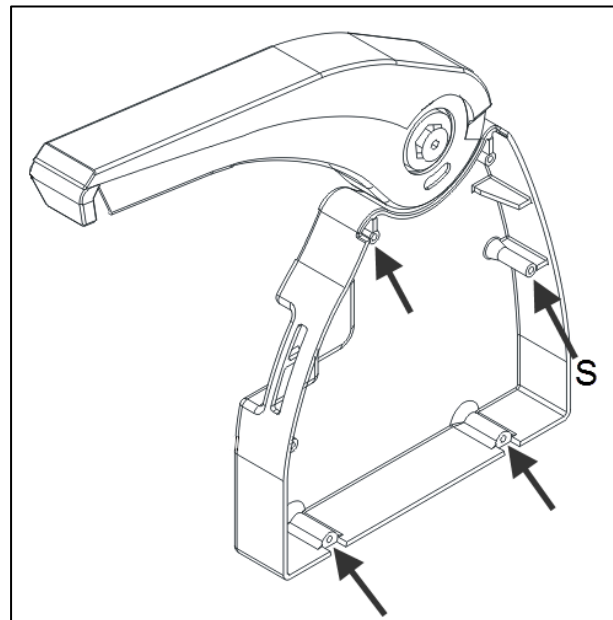
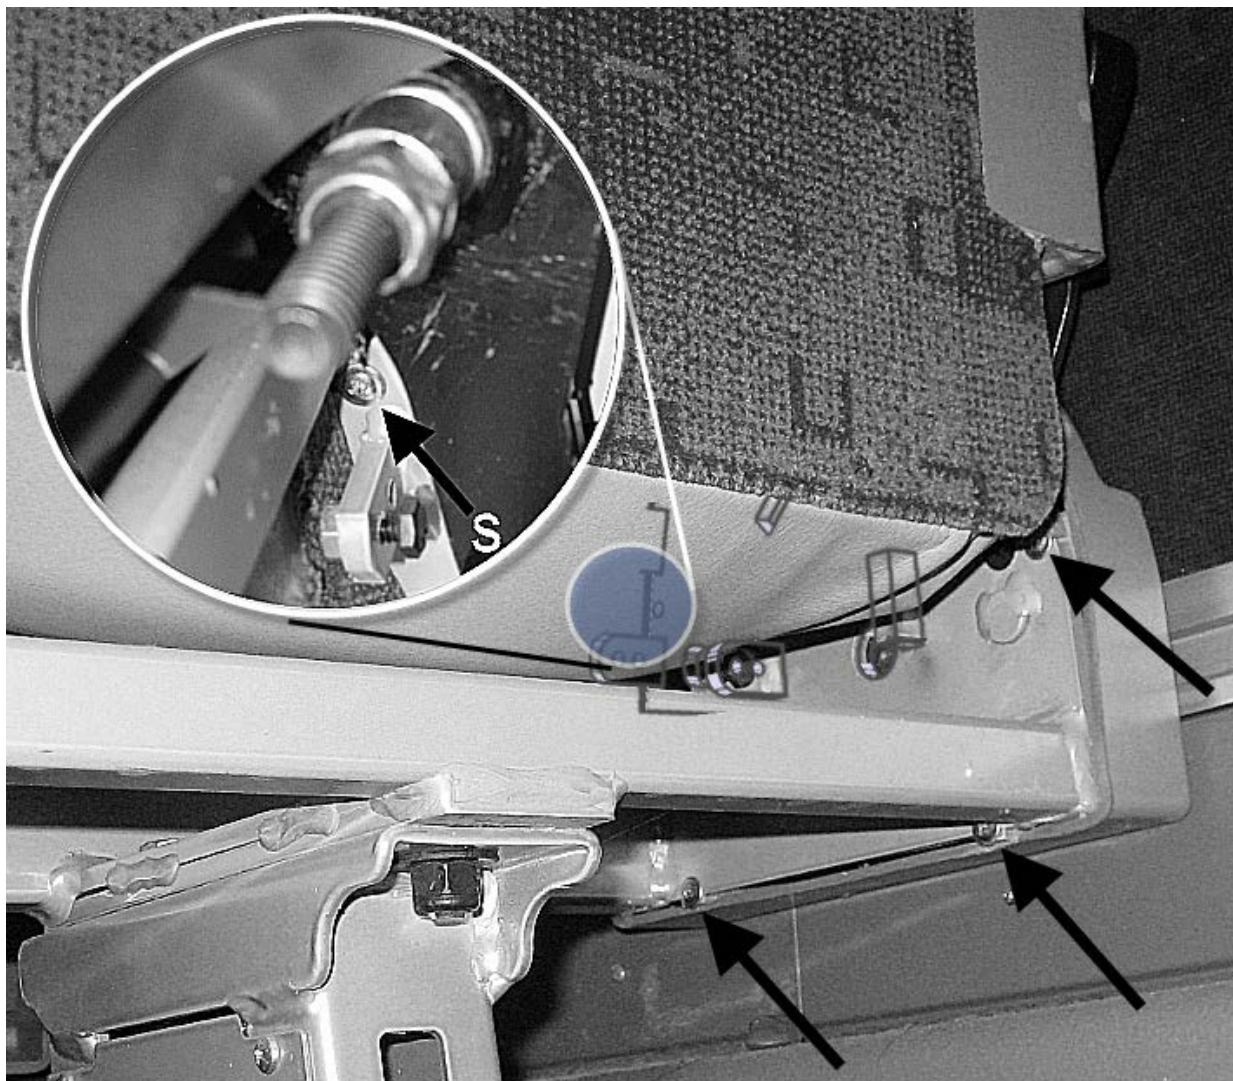

Figure 8: Screw locations
Figure 9: Blind screw "S" location
5. Remove the screws retaining the plastic cover, (Fig 8, Fig 9)